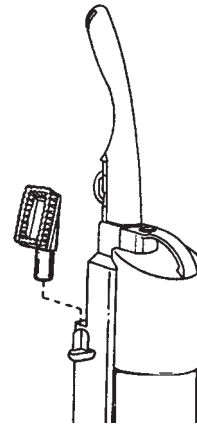

Figure 4d
1. Locate the Dusting Brush Mounting Peg. It's the small crossed post on the top left side of the Vacuum Cleaner. (See Figure 4d.)